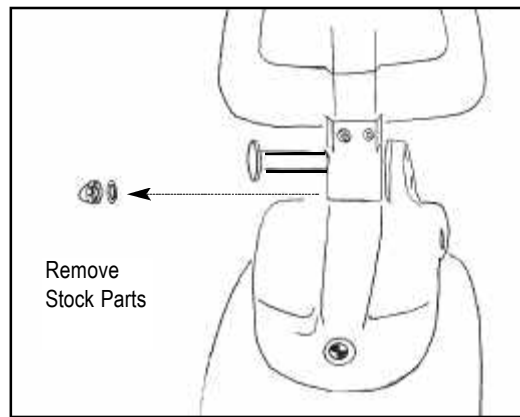

Figure 1.
Remove the acorn nut and flat washer from the seat backrest pivot bolt (socket, 13mm and hex key 6mm). Figure 1.